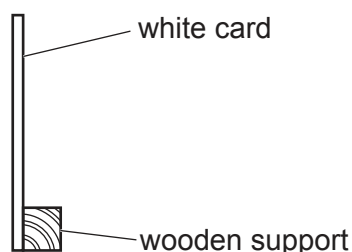

Fig. 3.2
- 2 The screen can be made from a sheet of white card, approximately $15\text{ cm} \times 15\text{ cm}$. Some means of supporting the screen vertically must be provided (e.g. fixing the white card to a small block of wood – see Fig. 3.2)